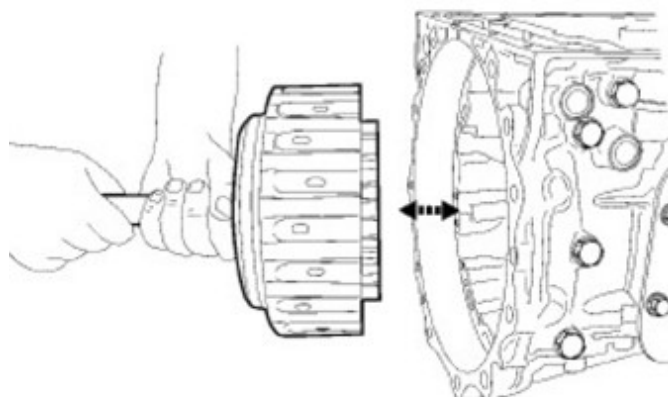

Fig. 6
10. Remove the input shaft assembly with the K1 and K2 clutch assemblies attached Fig. 6.
21. Install the K2 clutch assembly and the K1 clutch/input shaft assembly into the transmission case Fig. 6.